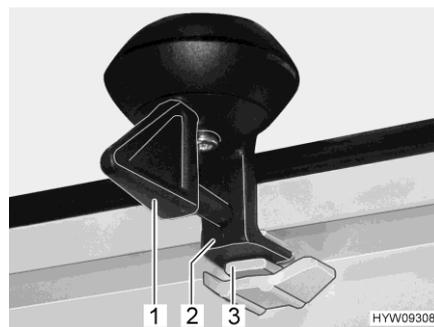

Fig. 46 Lock (ventilation position)
- Turn the lever (Fig. 46,1) one quarter turn. The lock (Fig. 46,2) must slide into the top recess (Fig. 46,3).